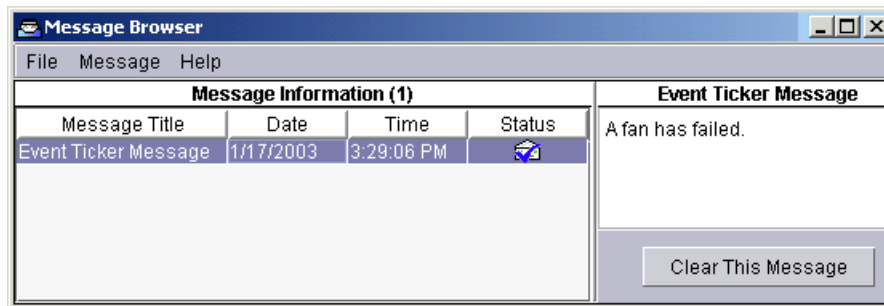

Figure 5-12 Message alert
16. To complete testing, we recommend removing one of the fans from the top of the x455. Within approximately 10 seconds, an alert should appear on the Director Console, similar to the one in Figure 5-12.